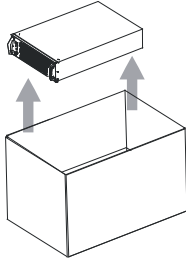

Fig. 2-8
3. Take out the UPS module (see Fig. 2-8).